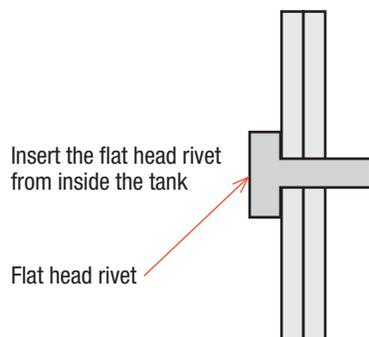

Figure 12.31 Insert rivet from inside tank.
- 3 Drill all the centre-punched marks along the joint. Use a flat head rivet (known as a tank rivet), to form a strong joint. Start from the top of the tank and work downwards. Figure 12.31 shows how to insert the rivet to form the joint.